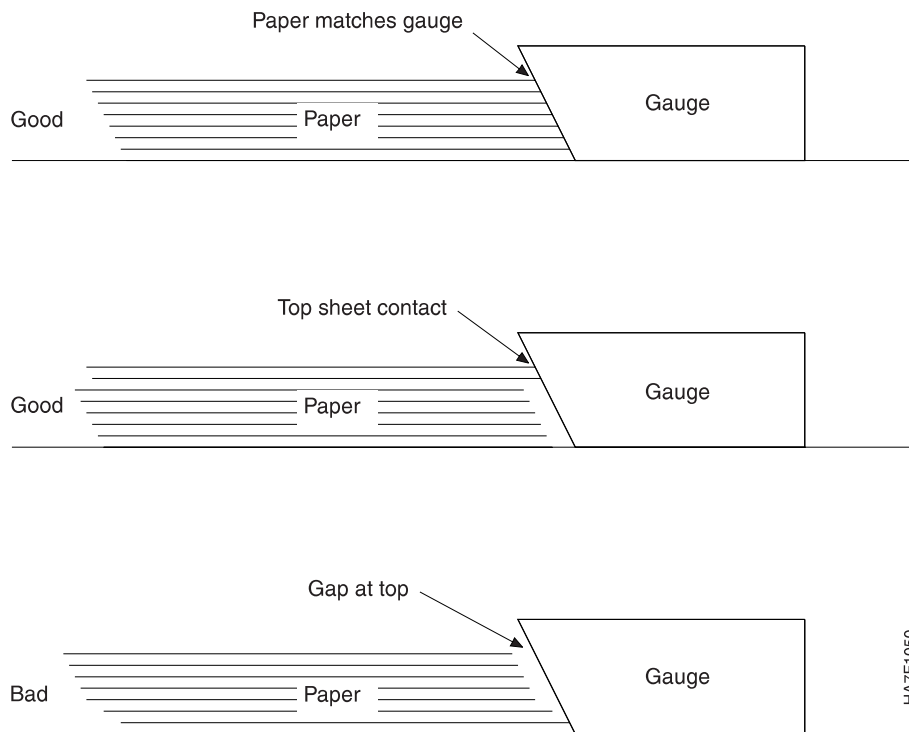

Figure 5. Stack Lean Test for Packaged Forms
3. Without compressing the folds, place the loosely back-folded stack on a flat surface (see Figure 5).
5. Select the area of worst lean along one side and apply finger pressure to remove all the air between the sheets. Use the gauge (PN 4792992, supplied by IBM) to test the stack lean as shown in Figure 5.